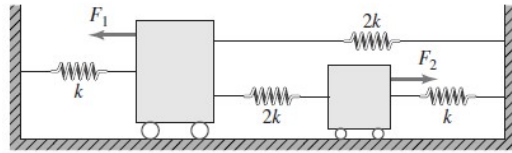

Figure 2
4. Two trolleys are connected by the arrangement of springs shown in Figure 2 below. (a) Determine the complete set of equilibrium equations for the system in the form $[K]\{\delta\} = \{F\}$ in global sense. (b) If $k=5$ N/mm, $F_1 = 60$ N and $F_2 = 90$ N, compute the displacement of each trolley and the force in each spring.